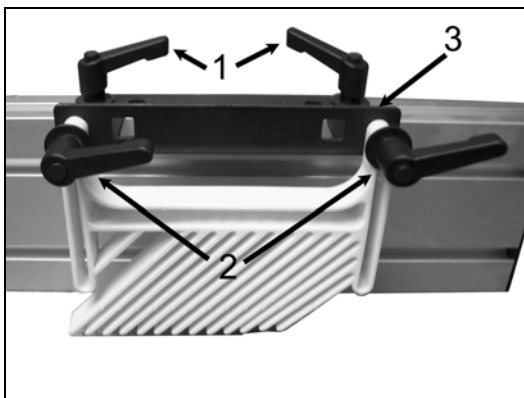

Figure 4
4. It is recommended to use the safety feather boards whenever possible. The boards are adjustable along the fence by loosening the two levers (1, Figure 4) and sliding the assembly to the desired location. The height of the feather board itself can be adjusted by loosening the two levers (2, Figure 4). If at the position shown the board is not low enough, the bracket (3, Figure 4) can be flipped over so that the vertical face is pointing downward. Of course levers 1 & 2 will have to be removed in order to flip the bracket and the feather board itself.